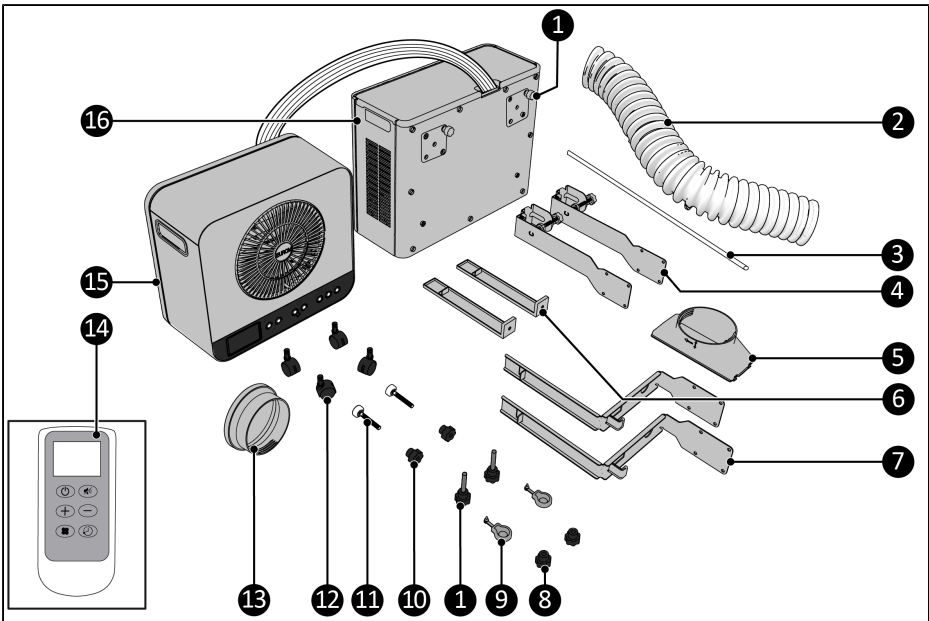
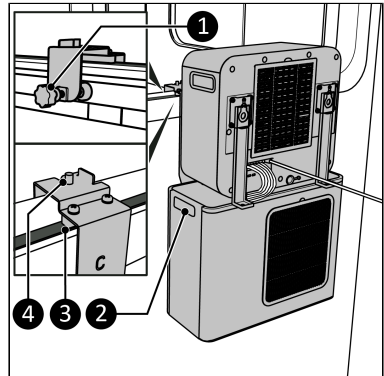
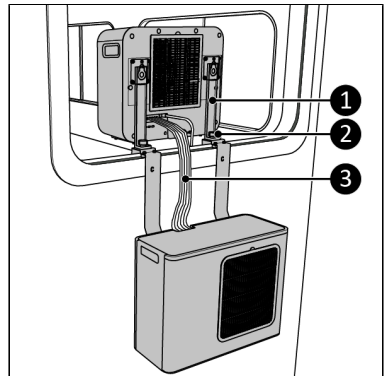

Figure 24.
Figure 31.
Figure 32.
8. Place the complete unit in the window using the side handles of the outdoor unit (Figure 31, pos. 2). Make sure the gray blocks are in the window seal.
9. Tighten the bolts (Figure 31, pos. 1) hand tight on the caravan.
10. Make sure you have the screw caps (Figure 24, pos. 8) within reach for the threads on the bracket (Figure 31, pos. 4).
11. Lift the indoor unit through the window and place the hooks (Figure 32, pos. 1) on the threaded end (Figure 32, pos. 2).
12. Tighten the screw caps (Figure 24, pos. 8) on the threads (Figure 32, pos. 2).
14. The refrigerant hose (Figure 32, pos. 3) is guided between the indoor- and outdoor unit. Avoid bending the refrigerant hose in smaller bends than 30 mm.